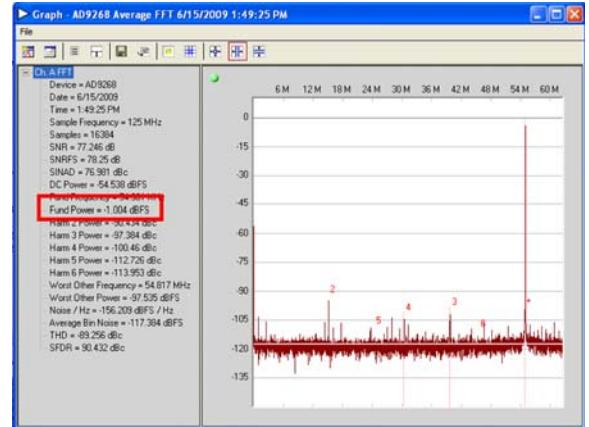

Figure 13. Graph Window of VisualAnalog
1. Adjust the amplitude of the input signal so that the fundamental is at the desired level. (Examine the **Fund Power** reading in the left panel of the **Graph - AD9265 Average FFT** window, see Figure 13.)